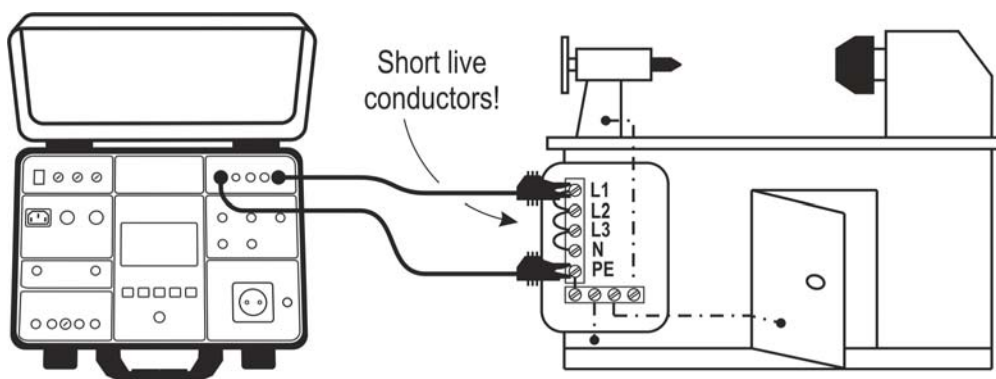

Figure 17: Connection of test leads
- 9) Test result will be displayed in green colour equipped with green symbol and with beep-beep sound if it is within limit range, see the table of allowed trip out times below. If the result is out of limit range, then it will be displayed in red colour equipped with red symbol and with longer beep sound. See the display outlook with test result on the figure 17.